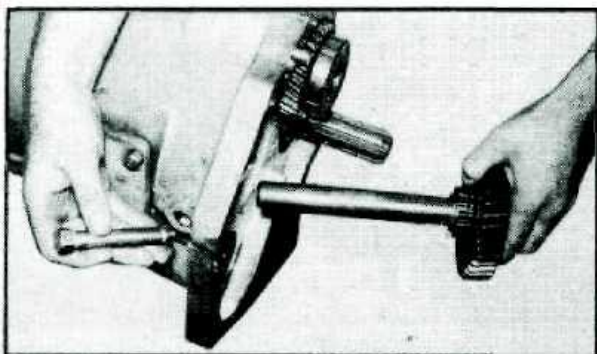

Fig. G.17 — Removing Reverse Idler Shaft.
2. Slacken or remove the reverse idler shaft set-screw which protrudes from the nearside of the housing, and withdraw the shaft through the rear of the housing, complete with the P.T.O. intermediate gear and bearings. (See Fig. G.17).